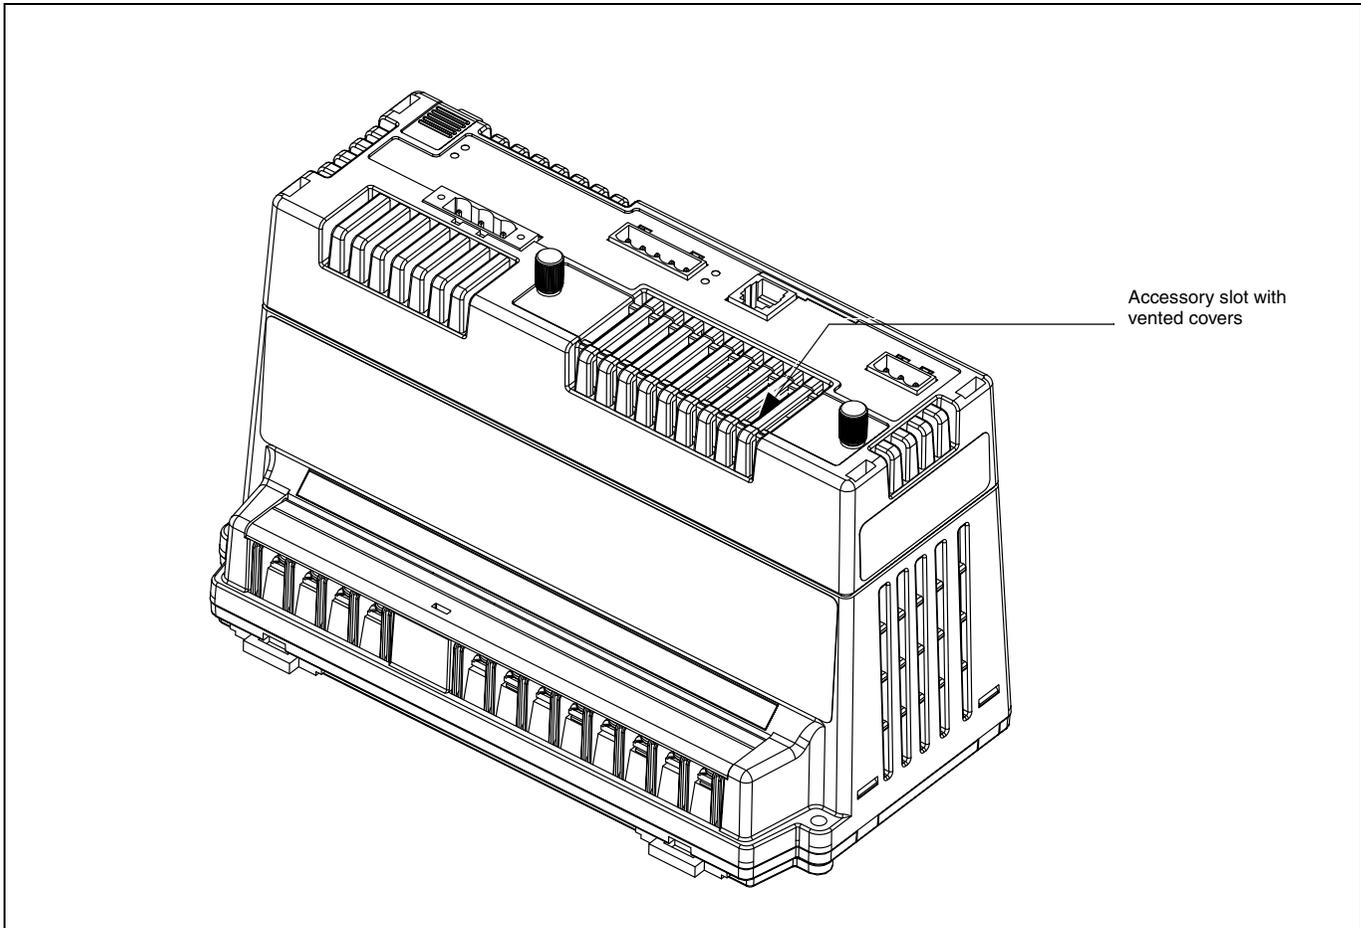

Figure 4–11: Location of vented slot for optional accessory cards
2. Tape the template provided in the display hardware kit (no. 63230-305-22) to the selected location on the front of the panelboard. Refer to Figure 4–8 on page 22.
Option cards fit into the accessory slot on the top of the circuit monitor. Two cards are available, a digital I/O card (with relay outputs rated up to 10 A) and an Ethernet communications card (ECC) for high-speed Ethernet communications. Figure 4–11 shows the location of the accessory slot in the circuit monitor.
The access door, shown in Figure 4–12 on page 26, lets you access the revenue metering security switch. When you press this button, it locks set up of the circuit monitor so that the revenue-related setup parameters of the circuit monitor cannot be changed from the display or over the communications link. In addition, you can attach a standard lead/wire seal to secure the door closed and to visually detect any tampering with the meter. The following information is locked when revenue security is active: